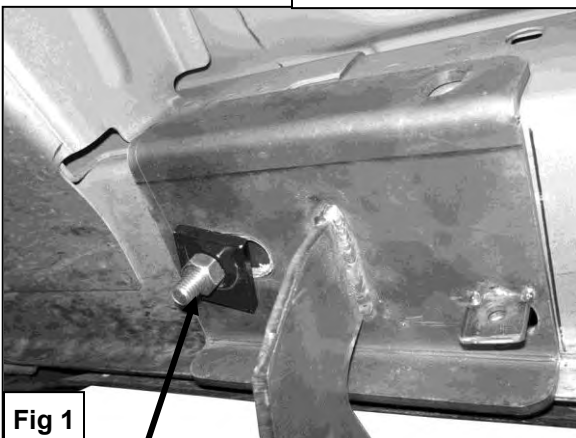

Fig 1
3. Insert (1) 12mm x 45mm Bolt Plate into the slotted factory hole (**Figure 1**). **NOTE:** Do not center the Bolt Plate in the factory hole, the shorter end of Bolt Plate should be pushed to one side of the factory hole in order to fully engage.
4. Position passenger side front Mounting Bracket up to the vehicle and over already inserted Bolt Plate. **NOTE:** The hole pattern on the Mounting Bracket matches the hole pattern on the vehicle. Partially hang Mounting Bracket to Bolt plate using the included (1) 12mm Hex Nut and (1) 12mm Square Washer (**Figure 1**).